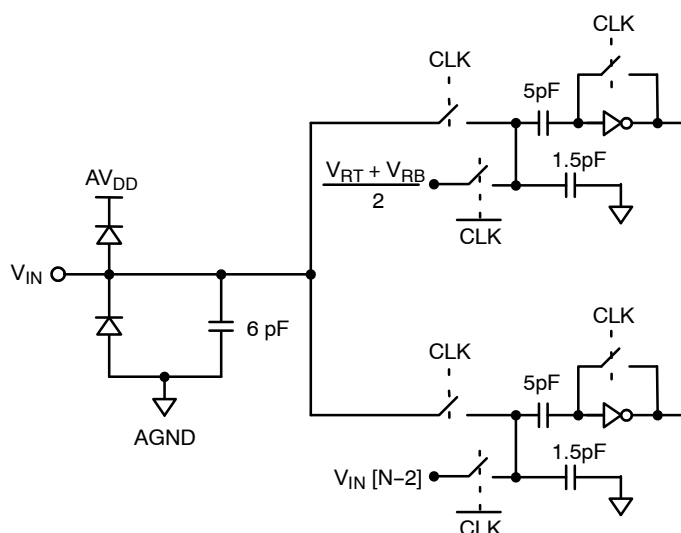

Figure 4. Equivalent Input Circuit
- See V_{IN} input equivalent circuit (Figure 4.). Switched capacitor analog input requires driver with low output resistance.